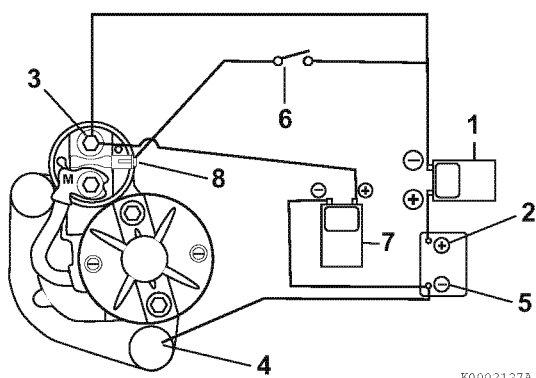

Figure 10-35
2. Connect an ammeter (**Figure 10-35, (1)**) in series between the battery positive (+) terminal (**Figure 10-35, (2)**) and the main positive (+) terminal (**Figure 10-35, (3)**) on the starter motor.
3. Connect a wire lead between the mounting base of the starter motor (**Figure 10-35, (4)**) and the battery negative terminal (**Figure 10-35, (5)**).
4. Connect a voltmeter (**Figure 10-35, (7)**) to the battery negative (-) terminal (**Figure 10-35, (5)**) and the main positive (+) battery terminal (**Figure 10-35, (3)**) on the starter motor.
5. Install a switch (**Figure 10-35, (6)**) in a circuit between the battery positive (+) terminal (**Figure 10-35, (2)**) and the starter magnetic switch (solenoid) terminal (**Figure 10-35, (8)**) on the starter motor.